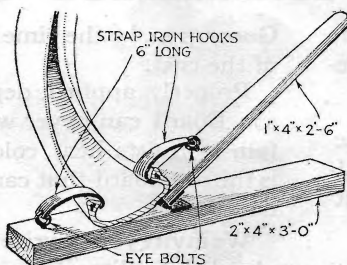

Fig. 4. Plenty of leverage enables you to inspect every part of the inside of an automobile tire with this simple device
INSPECTING the inside of an automobile tire for nails or breaks in the fabric is made easier by the simple, homemade device sketched in Fig. 4. Plenty of leverage is supplied for spreading the beads.
D. A. JEWETT, of Beaver City, Nebr., wins the \$10 prize this month for his suggestion of a device to make tire inspection easy (Fig. 4).